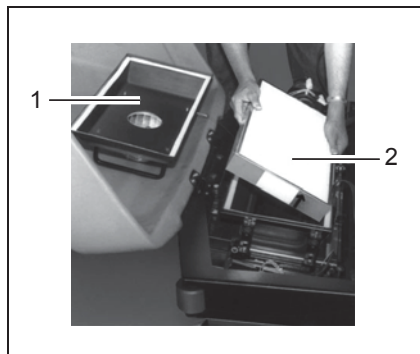

Fig. 41
Clean the panel air filter (Fig. 41/2) in the dust vacuum regularly or as necessary using the agitating device:
2. Remove the straps holding the filter case cover (Fig. 41/1).
3. Remove the filter case cover (Fig. 41/1).
4. Remove the panel air filter (Fig. 41/2).
Drop the panel air filter (Fig. 41/2) a few times, from a suitable height, onto a solid surface. Ensure the filter ribs are not damaged!
The surface must not have any irregularities. Do not let the panel air filter (Fig. 41/2) drop at a slant.
Do not install panel air filters (Fig. 41/2) which have damaged filter ribs!
The panel air filter (Fig. 41/2) must be installed in the reverse sequence to disassembly, refer to paragraph "Disassembling the panel air filter".
To not insert the panel air filter (Fig. 41/2) the wrong way round! Pay attention to the arrow on the frame of the panel air filter (Fig. 41/2)! The arrow must point upwards.